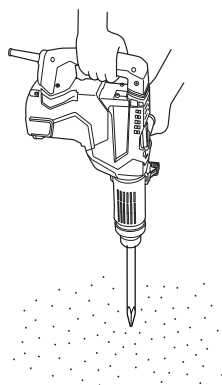

Fig. 14
- (1) Loosen the wing bolt, and insert the stopper into the mounting hole on the side handle.
- (2) Adjust the stopper position according to the depth of the hole and tighten the wing bolt securely.
6. Warming up (Fig. 14)